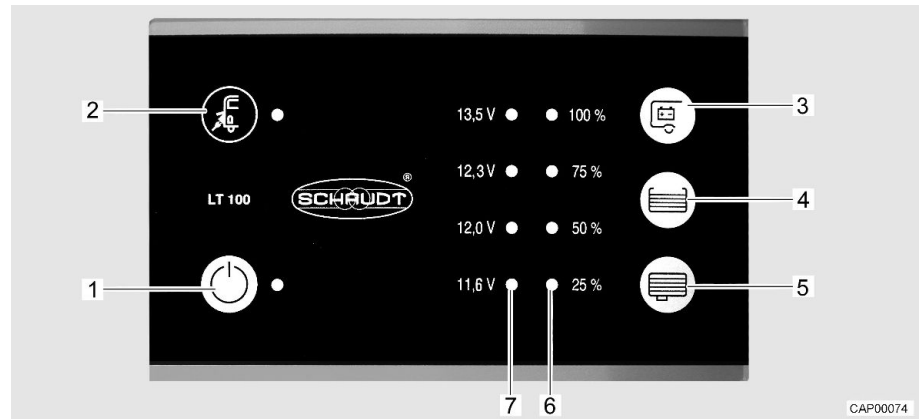

Fig. 69 Panel (LT 100)
The yellow LED at the mains connection symbol  (Fig. 69,2) is lit when the vehicle is connected to an external mains supply. In this case, the LED will also be lit when the panel is switched off.
The 12 V main switch (Fig. 69,1) switches the panel and the 12 V power supply of the living area on and off.
- Press switch "" (Fig. 69,1): The 12 V living area power supply is switched on. The LED lights up green.
- Press switch "" (Fig. 69,1) again: The 12 V living area power supply is switched off. The LED goes out.
The LED array (Fig. 69,7) displays the battery voltage of the living area battery as follows:
- Press "☰" button (Fig. 69,3): The battery voltage of the living area battery is displayed.
The LED array (Fig. 69,6) displays the fill level of the fresh water tank or of the waste water tank.
- Press "☰" button (Fig. 69,4): The fill level of the fresh water tank is displayed by lit LEDs.
- Press "☷" button (Fig. 69,5): The fill level of the waste water tank is displayed by lit LEDs.